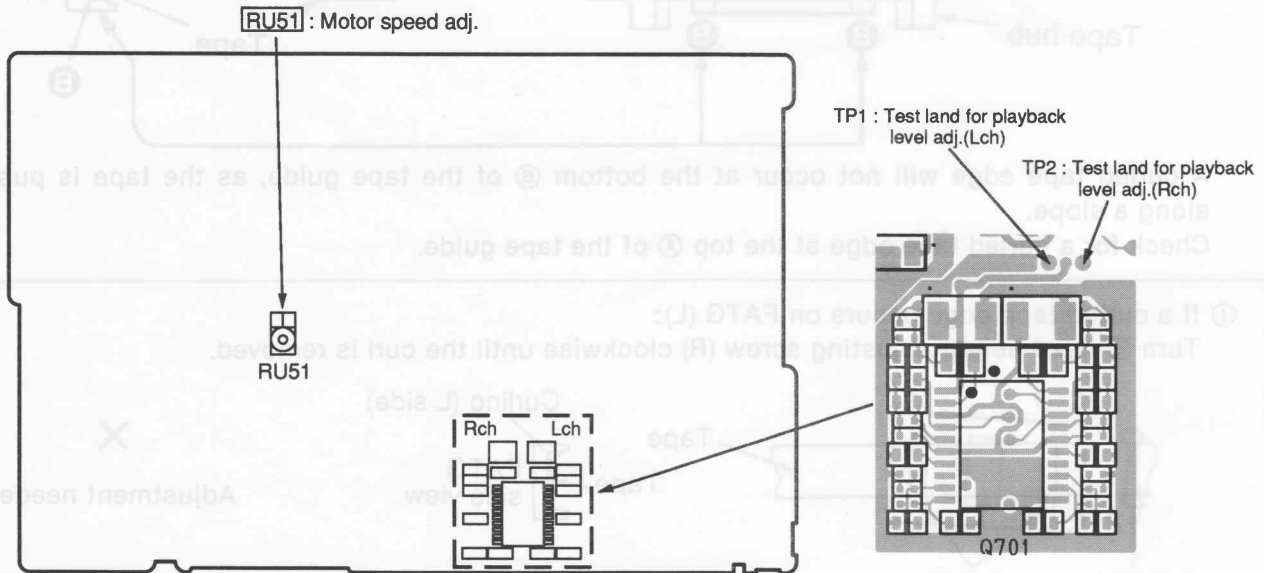

Fig. 1 MAIN PCB (P503)
2. Short lands of TP01. (Refer to Fig. 1 MECHANISM PCB.)